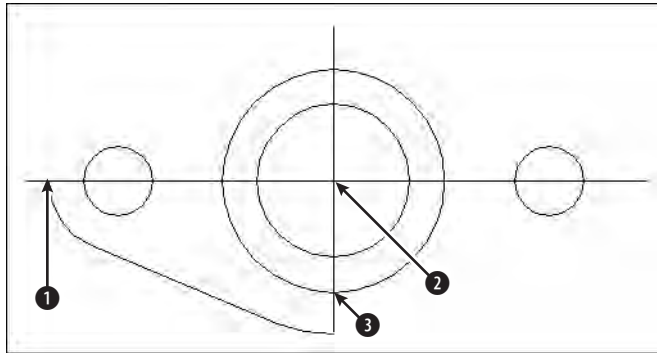

Figure 10-1: A partially completed mounting plate
3. Choose **Erase** on the **Modify** toolbar. At the **Select objects:** prompt, pick the line and two arcs to the bottom-right of the two centerlines and then press Enter. The resulting model should look like Figure 10-1.
5. At the **Specify first point of mirror line:** prompt, pick the intersection ❶ in Figure 10-1. At the **Specify second point of mirror line:** prompt, pick the intersection ❷.